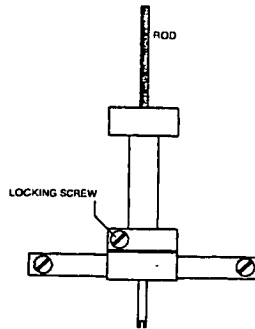
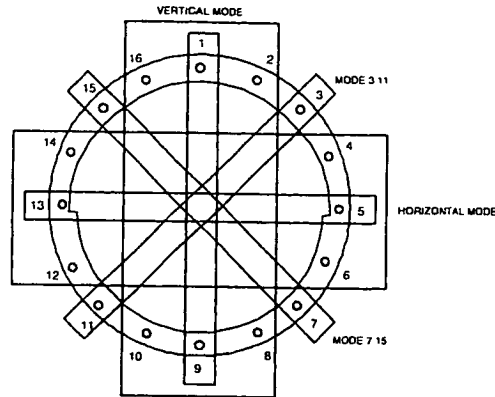

Figure 23 QBC trimmer
Figure 24 QBC frequency modes
15. On the front side and the back side of the QBC you can find the adjustment screws for the trimmers. Loosen the screws that lock the trimmers for all QBC rods. (see Figure 23 and Figure 24).
To adjust the QBC, use the following trimmers according the measured offset: (See Figure 24)